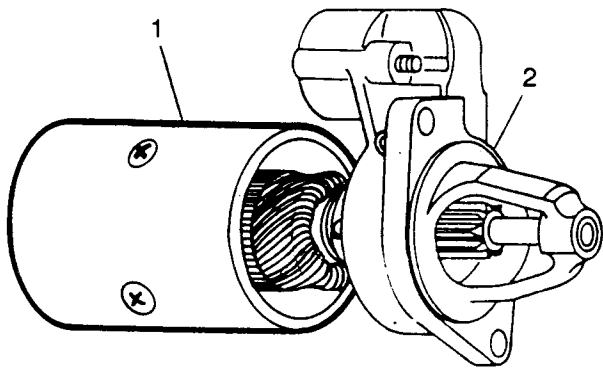

Fig O6.13
- (1) Refer to Fig O6.13. Withdraw the yoke (1) from the armature assembly (2).